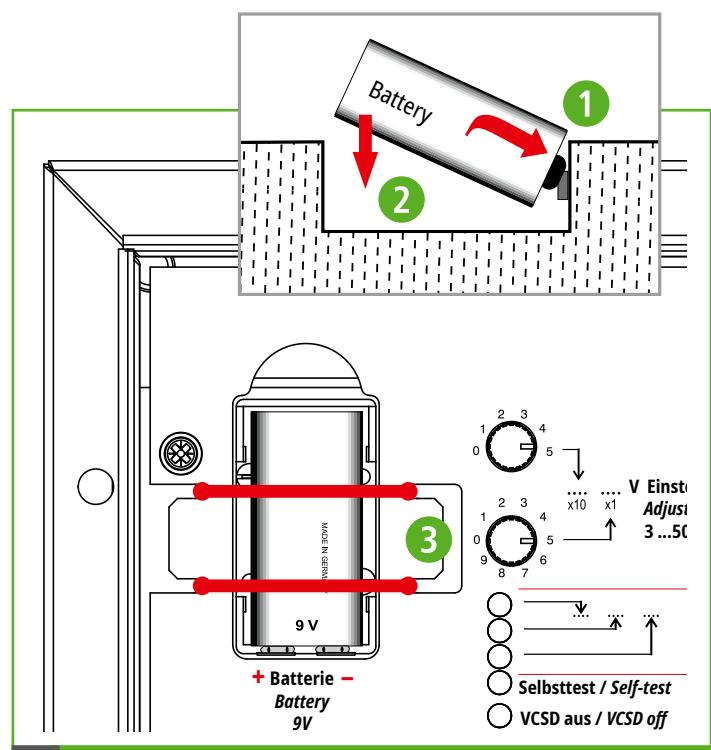

Fig. 4.1.1 Battery compartment
- ☞ To remove the battery, take out the O-ring first and then tilt out the battery (see Fig. 4.1.1, page 11).
VCSD is supplied with a 9V block battery (Part No. 923 099) in the battery compartment. Before commissioning remove the protective strip from the +/- poles of the battery. Only then can the battery be properly inserted or connected as shown in Fig. 4.1.1. Re-attach ③ the O-ring to fix the battery in place (see Fig. 4.1.1).